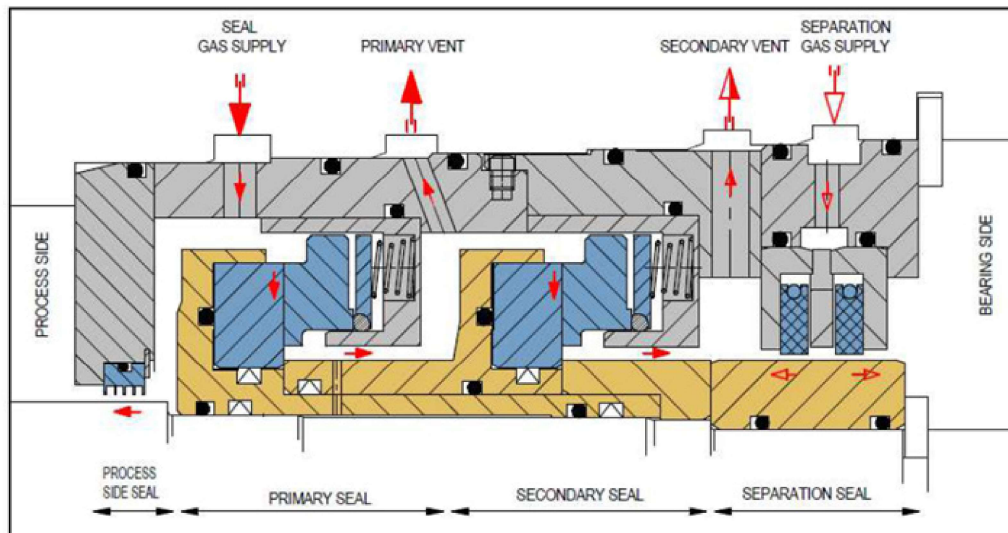

Figure.7. Tandem Seal Schematic
- tandem arrangements (**Figure.7**) or